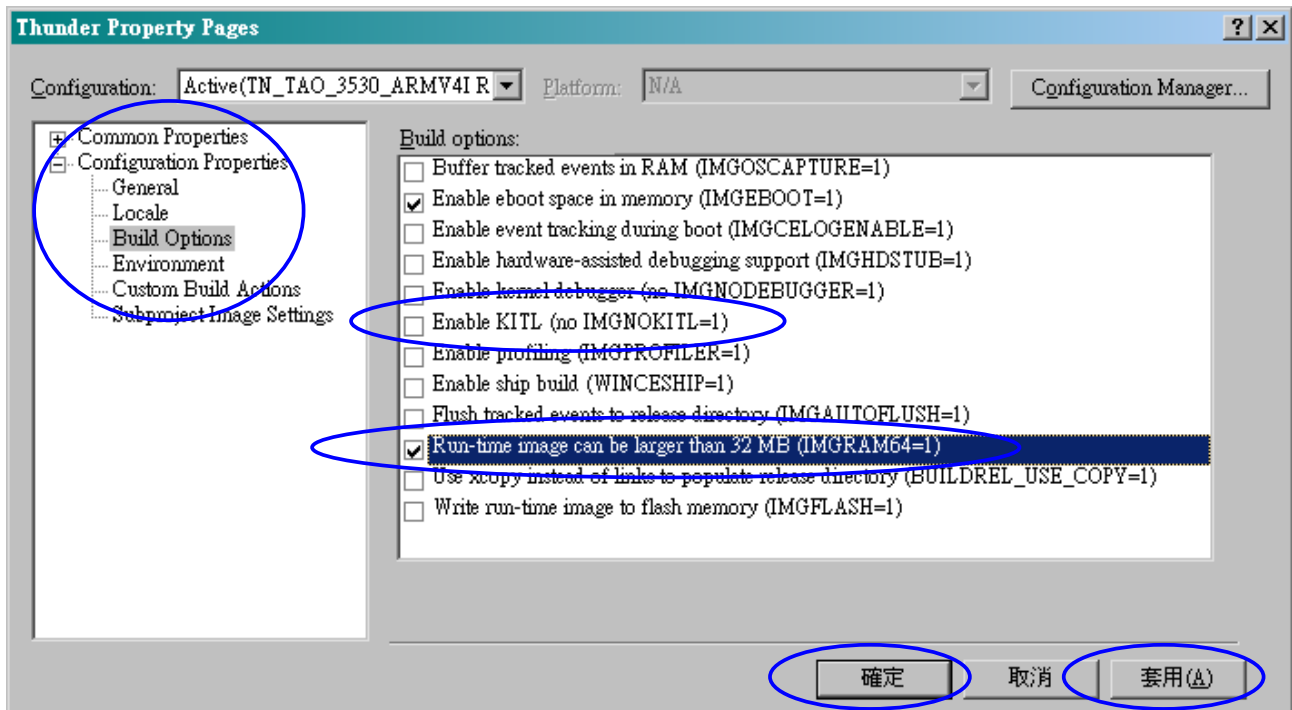

Figure 137
- Click “Configuration Properties → Build Options”. (See Figure 137)
- Click “Apply (A)”. Then click “OK” option.